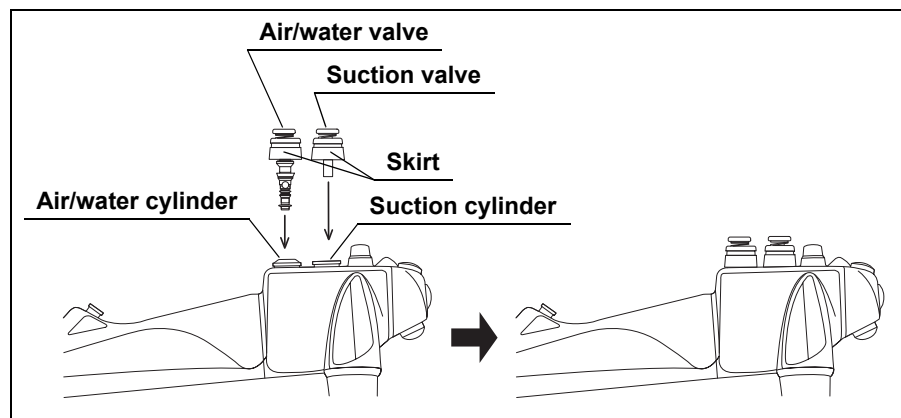

Figure 3.12
1. Attach the air/water valve to the air/water cylinder of the endoscope (see Figure 3.12).